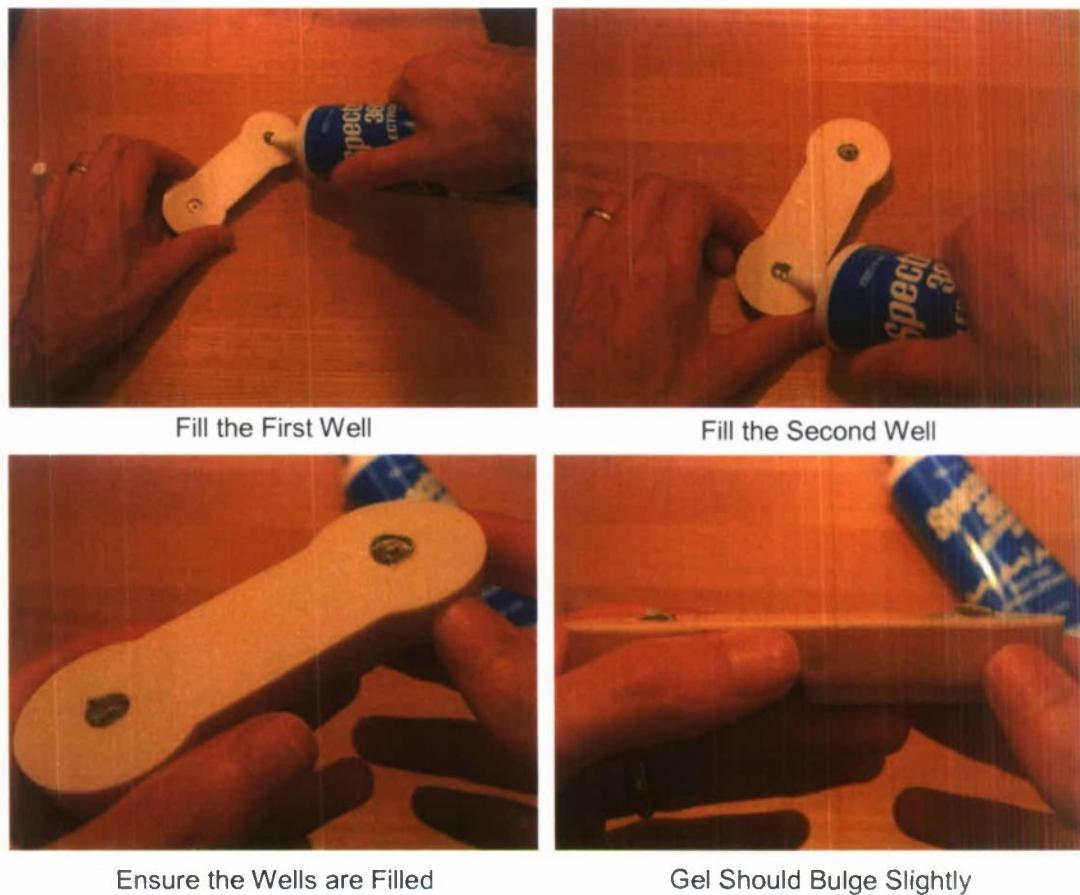

Figure 15. Applying the ECG Electrode Gel
5. Apply the ECG Electrode Gel. Squirt some ECG gel onto the ECG electrodes. Make sure that there is sufficient gel to fill the well formed by the hole in the adhesive strip (see Figure 15.)